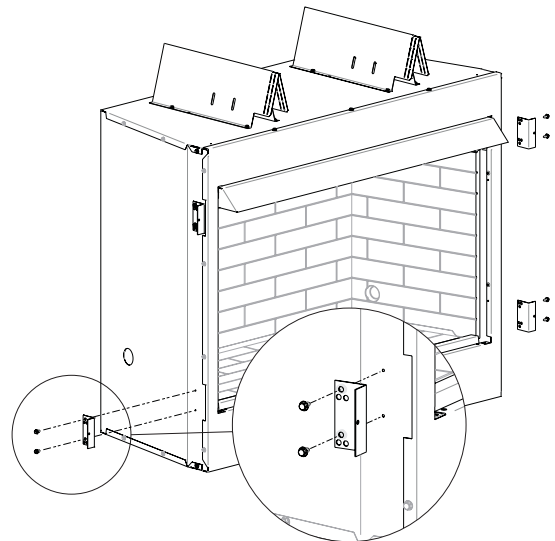

Figure 8
2. Install flanges on side of firebox as shown using holes on side of firebox. See Figure 8. The middle pair of holes is for the 1/2 inch non-combustible board provided with the unit.
- Install flanges on side of firebox as shown using holes on side of firebox. See Figure 8. The middle pair of holes is for the 1/2 inch non-combustible board provided with the unit.